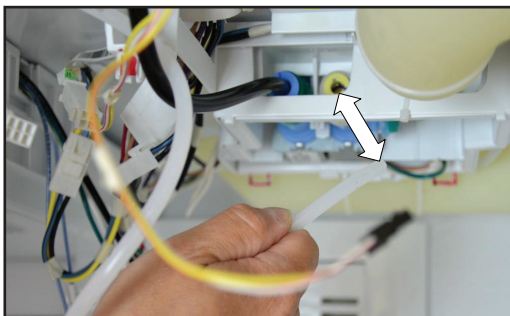

FIGURE 30
3. Disconnect ice maker fill tube from water valve. See *Figure 30*.